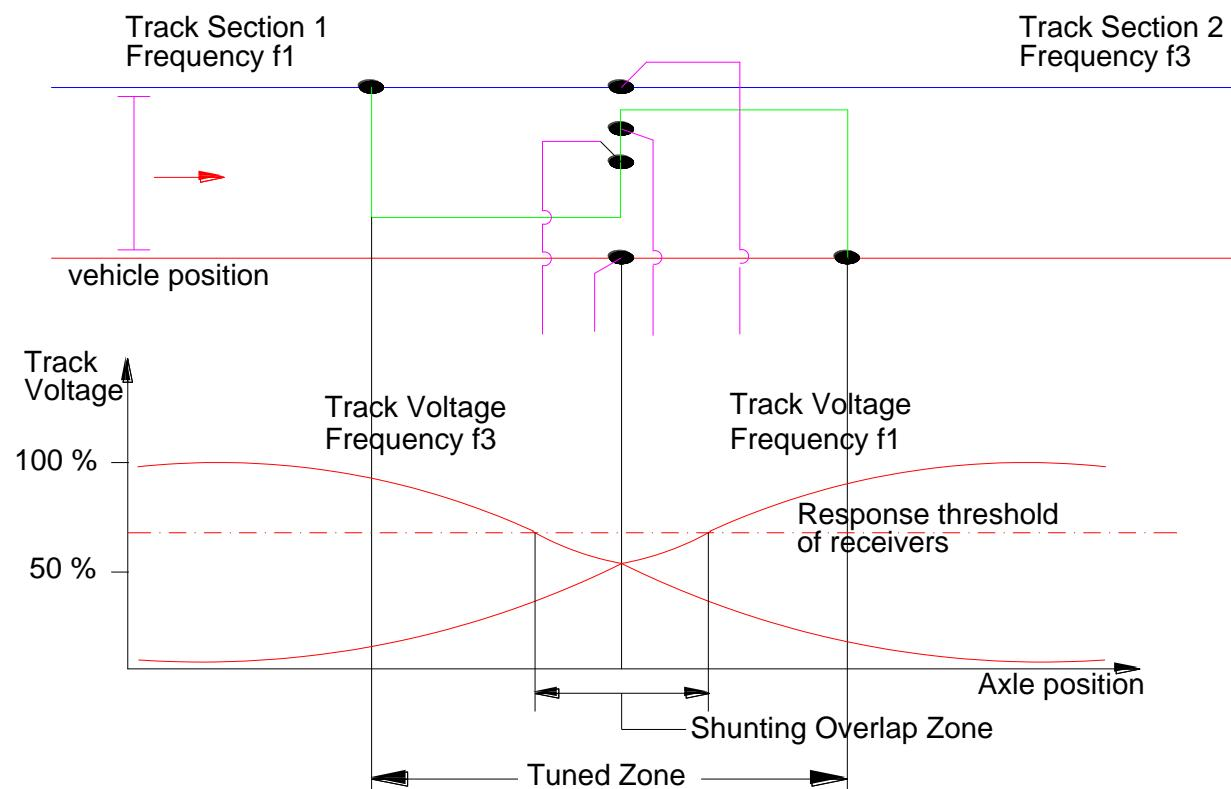

Fig.No.5.7
3. Tuning unit of frequency 'f1' offers high impedance (Parallel resonance) (pole) to its own track circuit frequency 'f1' and low impedance (series resonance) (zero) to the adjacent track circuit frequency 'f3'. Similarly Tuning unit of frequency 'f3' offers high impedance (pole) to its own track circuit frequency 'f3' and low impedance (zero) to the adjacent track circuit frequency 'f1' as shown in fig Fig.No.5.7